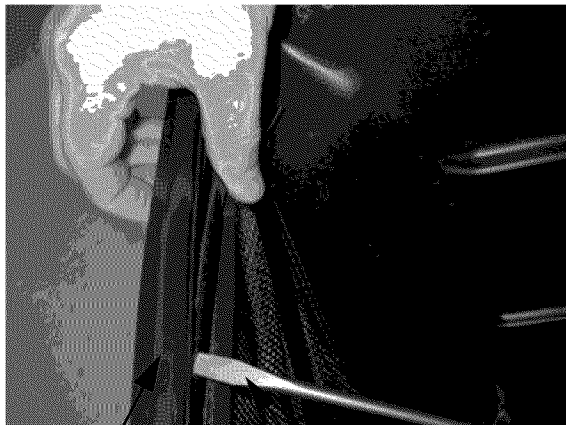

Figure 4
3. Install the Cloth Bag [H] to Bag Frame [B]. Attach the "J" strip of the bag to the frame using a flatblade screwdriver to pry the strip as shown below in Figure 4.